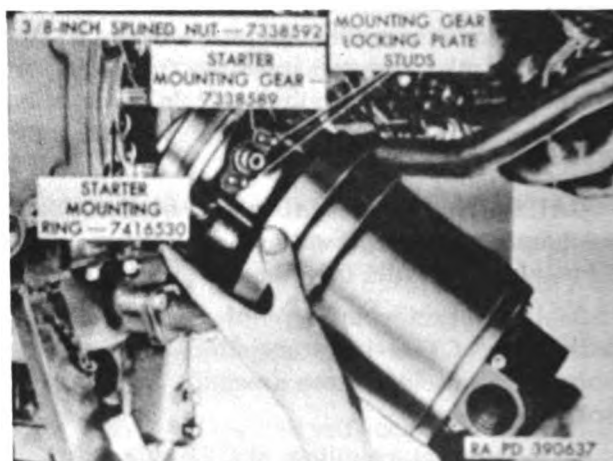
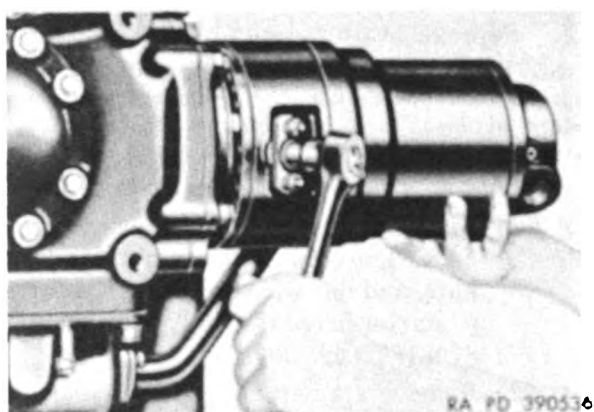

Figure 33. Removing or installing early model Jack and Heintz starter.
Figure 32. Disconnecting or connecting early model Jack and Heintz starter.
- (1) Depress locking plate with wrench as shown in figure 32 and loosen worm gear bolt. Remove starter as shown in figure 33.
- (2) Remove six splined nuts (fig. 33) securing starter mounting ring to starter drive assembly and remove mounting ring. Remove and discard gasket.